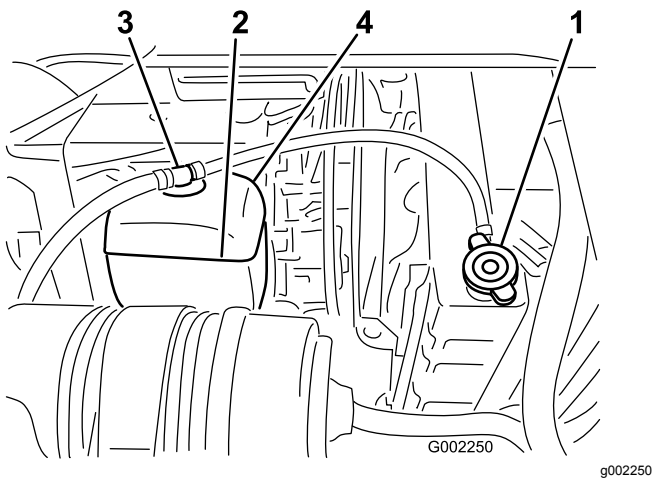

Figure 54
2. When the engine is cool, remove the radiator cap (Figure 54).